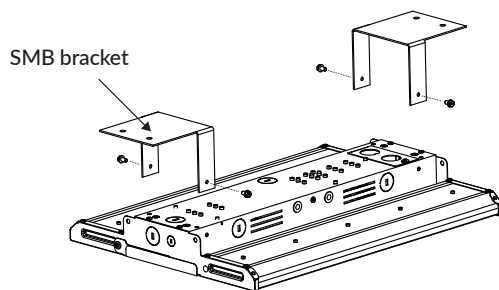

Figure 3
- Screw the EVT SMB brackets onto the four corner holes with M5 screws. (Figure 3)